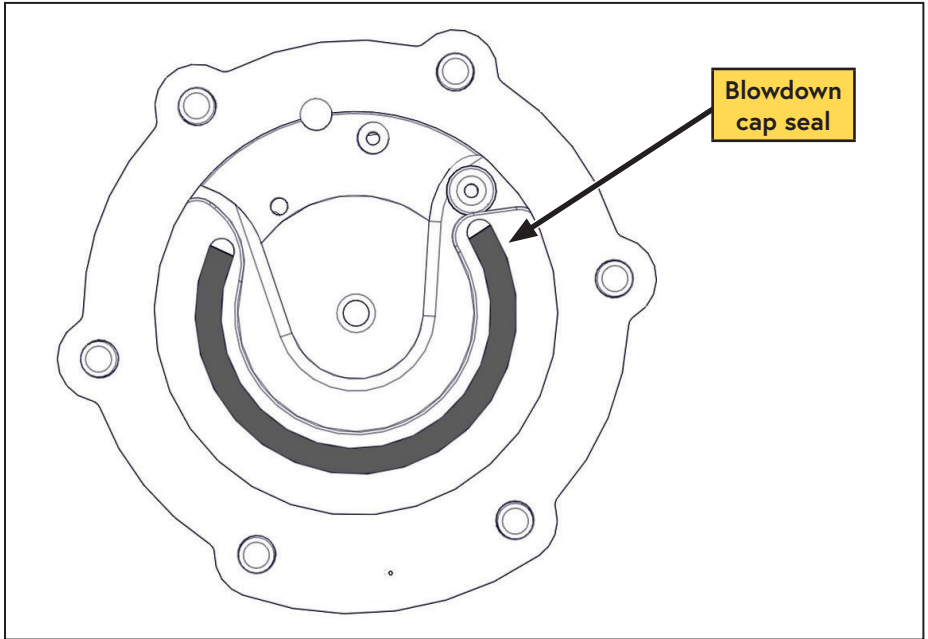

Figure 31 — Rear cap seal
- ☐ Install the Blowdown cap seal in the blowdown cap (Figure 31).